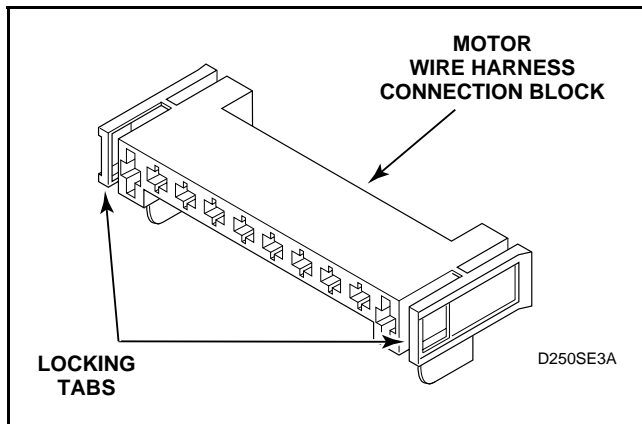

Figure 46
- Disengage motor wire harness terminal block from motor switch by pressing in on the movable locking tabs (located on each end of the terminal block) and pulling away from motor. See *Figures 46 and 47*.
- (1.) Disengage motor wire harness terminal block from the motor by pressing in on the movable locking tabs (located on each side of the terminal block) and pulling away from motor. See *Figure 46*.